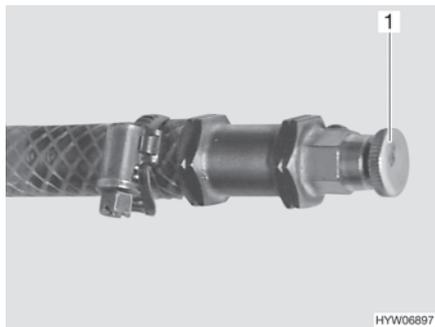

Fig. 213 Bleeding valve of hot-water heater
- Open bleeding valve (Fig. 213,1) and leave open until no more air escapes.